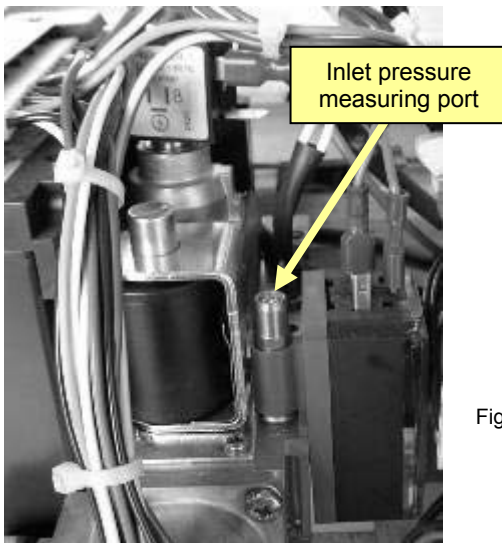

Fig. 19
- Place the tube of the “accurate” manometer on the Inlet pressure port (Figure 19) of the Gas Regulating Valve after having loosened the screw by one turn